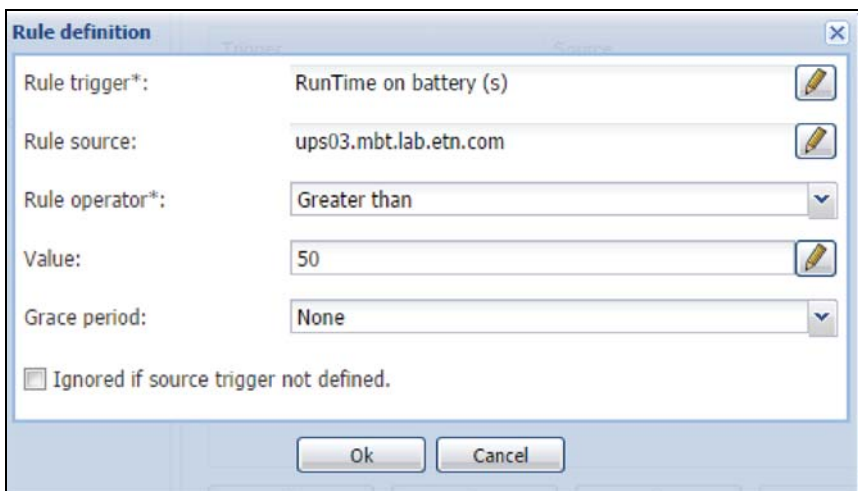

Figure 245. Rule Definition
- On the Rule definition dialog, select the source and the value (see Figure 245).